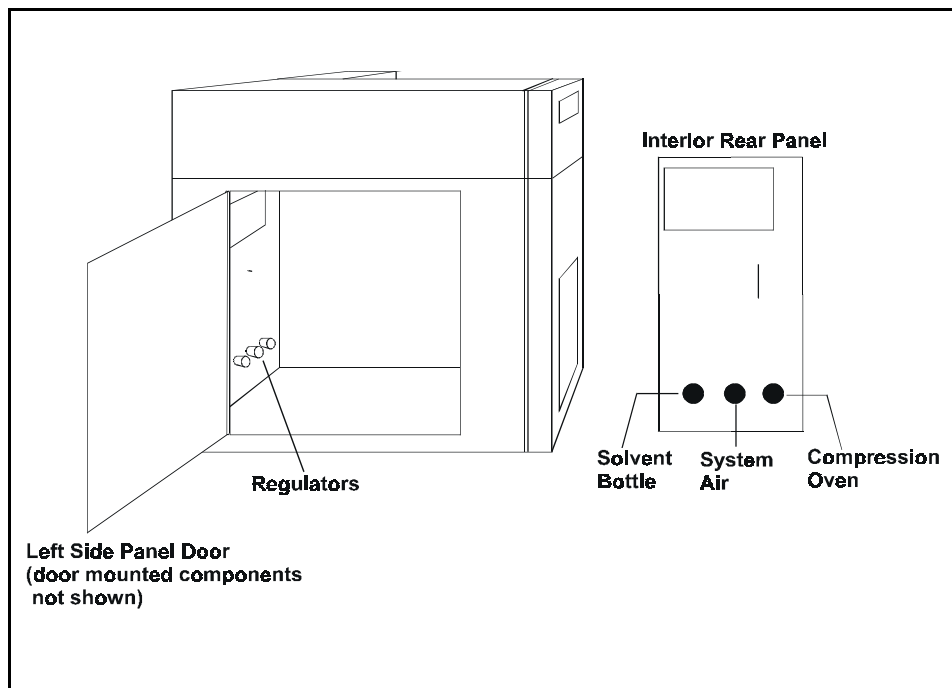

Figure B-6. Location of Regulators
2. If a pressure reading requires adjustment, open the left-side panel door to gain access to the regulator (see Figure B-6). The three regulator knobs correspond to the three gauges in the solvent reservoir compartment. To adjust a pressure, pull out the appropriate regulator knob, rotate until the corresponding pressure gauge shows the correct reading, and then push the knob back in.